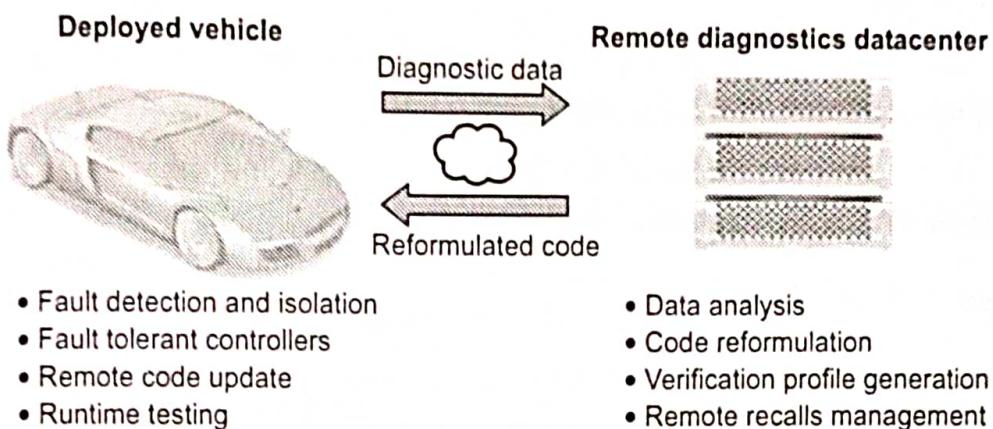

Fig. 7.7.2 : Remote vehicle diagnostics solution
- Modern commercial vehicles support on board diagnostic standard. Next generation vehicles will have sophisticated on-board connectivity equipment, providing wireless network access to the vehicle for infotainment and other telematics services. Fig. 7.7.2 shows remote vehicle diagnostics.